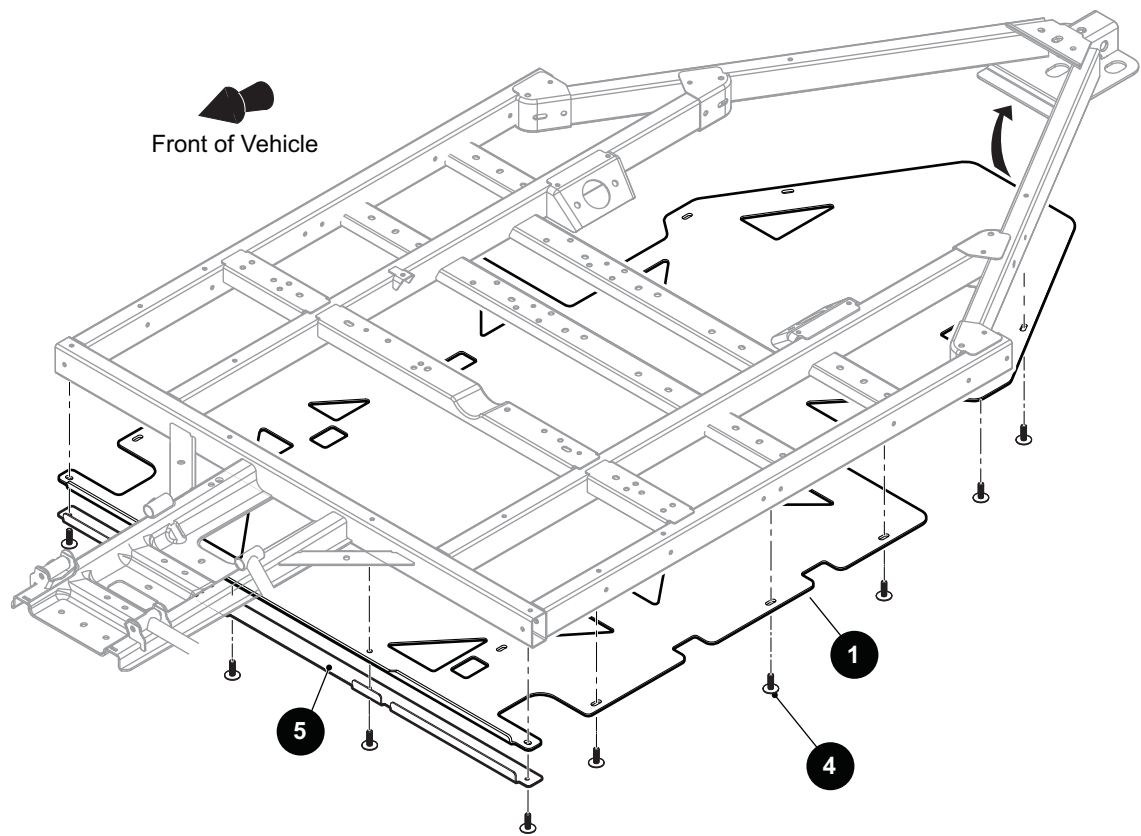

Fig. 16 Skid Plate
1. Remove the screws (4) that secure the skid plate (1) and the bracket (5) to the bottom of the frame (See Fig. 16).
2. Remove the bracket (5).